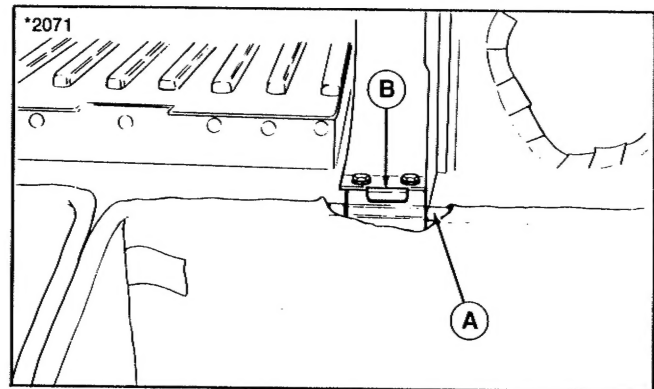

Figure 7.
9. Open grass bag cover and install grass bag frames (A, figure 7) to support brackets (B). Make sure cover handle latches to grass bag frames.